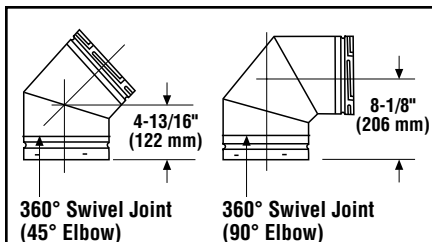

Figure 20: Elbows
- Each elbow features a 360° swivel joint (**Figure 20**), which allows it to be rotated around the center axis of the dimpled end, to align with the direction of the next vent run section.